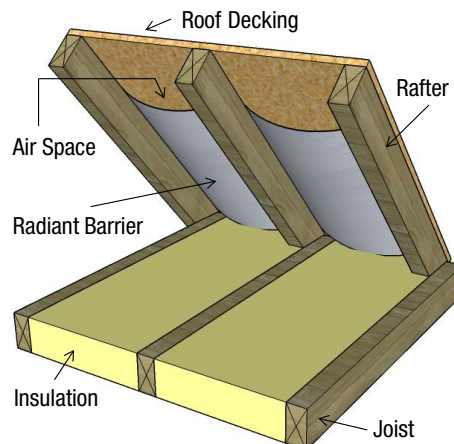

Figure 3 - Skipped sheathing removed, radiant barrier draped over the top of the rafters, solid roof decking installed over the radiant barrier.
3. Remove the skipped sheathing, and drape the radiant barrier over the rafters. Then install the roof decking (Figure 3).